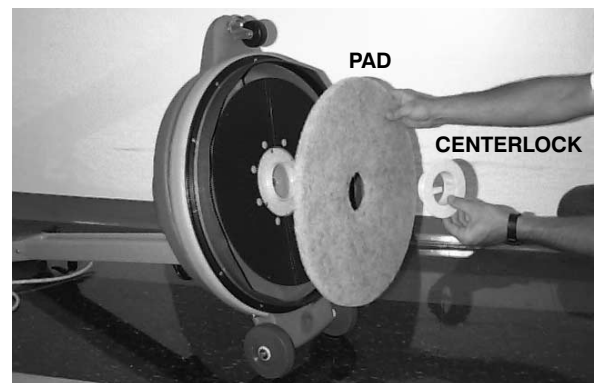

FIG. 2
4. Place selected pad on flexible pad driver and replace centerlock. Be certain centerlock is tight (Figure 2).